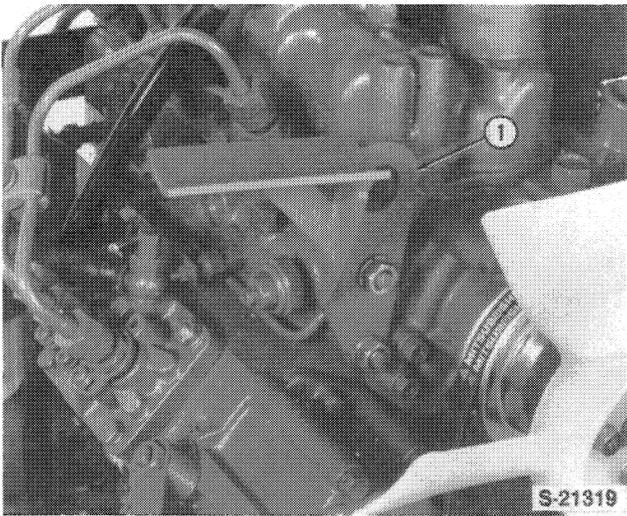

FIGURE 1-9
- Remove the mounting bracket bolts and spacers and remove the bracket, 1, from the cylinder head, Figure 1-9.